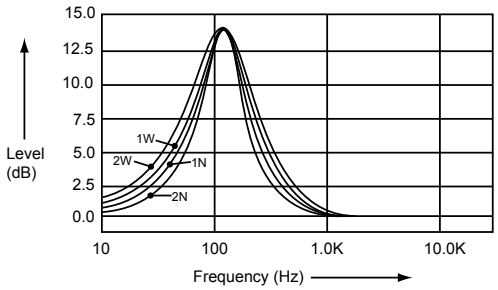

Figure 1
- **BASS-Q: (Bass Quality Factor)**: User has 5 seconds to use the Volume Up or Down button to adjust the desired Bass Quality Factor to 2N, 1N, 1W or 2W. See Figure 1.